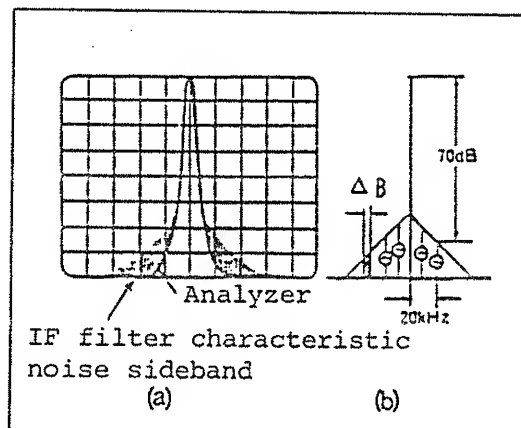

Figure A-2 Noise Sideband
-70 dB apart from the carrier by 20 kHz where the IF bandwidth is assumed to be 1 kHz. It is also expressed with the energy which exists within the 1 Hz bandwidth in general (Figure A-2 (b)).